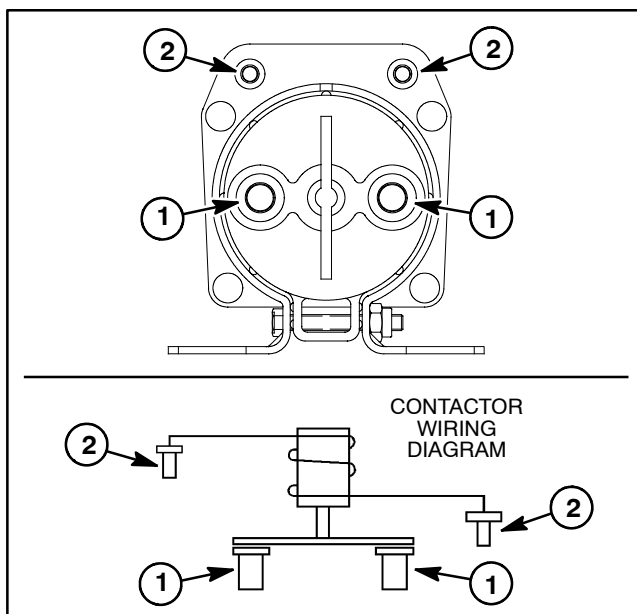

Figure 57
6. Using jumper wires, apply 48 VDC directly across the contactor coil posts (Fig. 57). The contactor should click as the coil is energized. With the contactor coil energized, resistance across the main contact posts should be less than **1 ohm**.
8. With no voltage applied to contactor posts, measure resistance across the contactor coil posts (Fig. 57). The resistance should be approximately **126 ohms**.
10. Connect electrical connections to main contactor (Fig. 57). Torque nuts that secure connections to contactor main contact posts from **40 to 50 in-lb (4.6 to 5.6 N-m)** and nuts that secure connections to contactor coil posts to **20 in-lb (2.2 N-m)**.